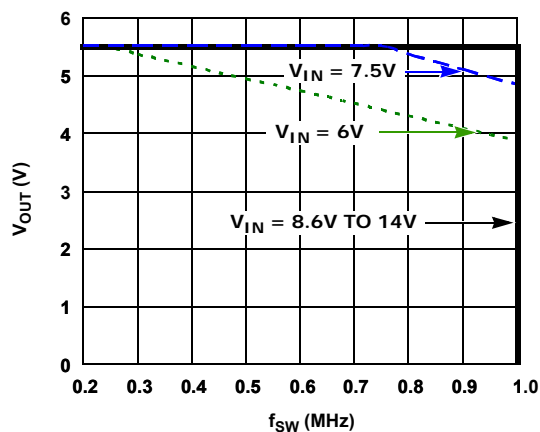

FIGURE 8. SAFE OPERATING AREA, $T_J \leq +125^\circ\text{C}$
10. Refer to Safe Operating Area in Figure 8 and thermal design guidelines in AN2010.
12. Percentage of Full Scale (FS) with temperature compensation applied.